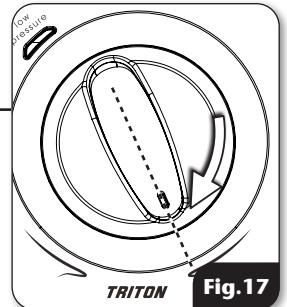

Fig. 17
D. With the cover off the shower, turn the temperature control fully clockwise to the 5 o'clock position (**fig. 17**).